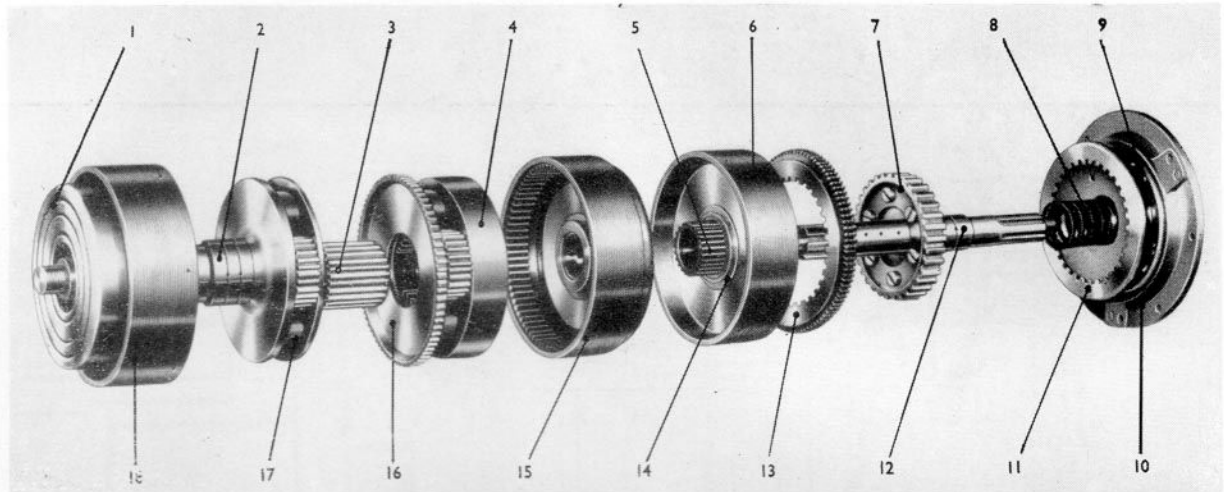

Fig. 19. Exploded View of Running Gear (Viewed from Output End)
Remove the 1st speed brake drum (fig. 19, item 18), together with ball bearing (40).
Press on to 1st speed brake drum (fig. 19, item 18), ball bearing (40) and replace in the casing. It should be noted that the ball bearing should be pressed further into the case than its normal working position, to ensure that when the end cover is replaced it is fully positioned against the ball bearing, which will be correctly repositioned as end cover is secured. Locate into position bush (60) together with the 1st speed train assembly (36) which includes output shaft. Replace oil pump washer (57) then fit oil pump eccentric key (62) and oil pump eccentric (56) to the output shaft, ensuring that the oil hole in the eccentric registers with the oil way in the shaft. Slide the oil pump oscillating cylinder (65) on to the pump plunger (64). Replace oil pump oscillating cylinder into its housing in end cover.